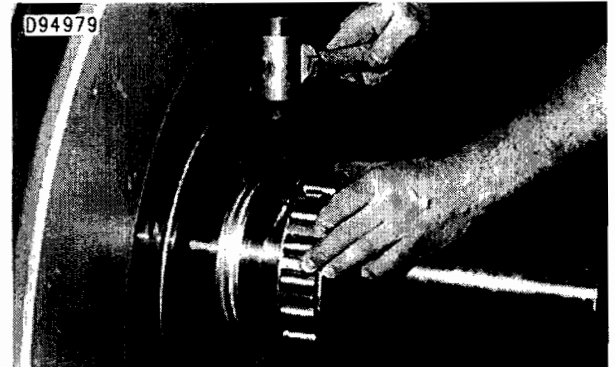

Figure 18
5. Place the cage around the inner race, matching the race halves. Insert the jointing clips. See figure 18.